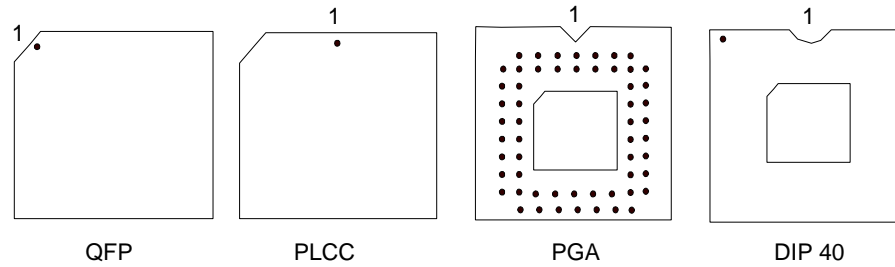

Figure 129. Pin Variations
2. Connect the adapter to the pod. Pin 1 can be marked in various ways. For example, you might see a beveled corner, the number one, or a V-shaped notch (Figure 129).